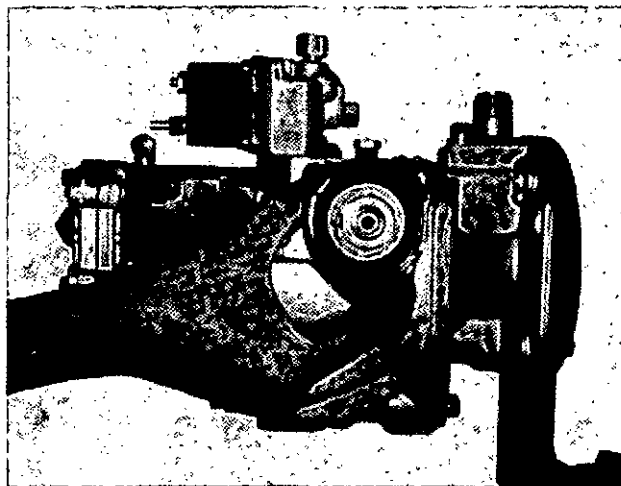

Fig. 1-8, (F5302). Remove the AFC bellows and piston assembly.
3. Carefully lift the bellows away from the sealing surface around the AFC cavity and pull the bellows, piston and plunger assembly from the AFC barrel, Fig. 1-8.